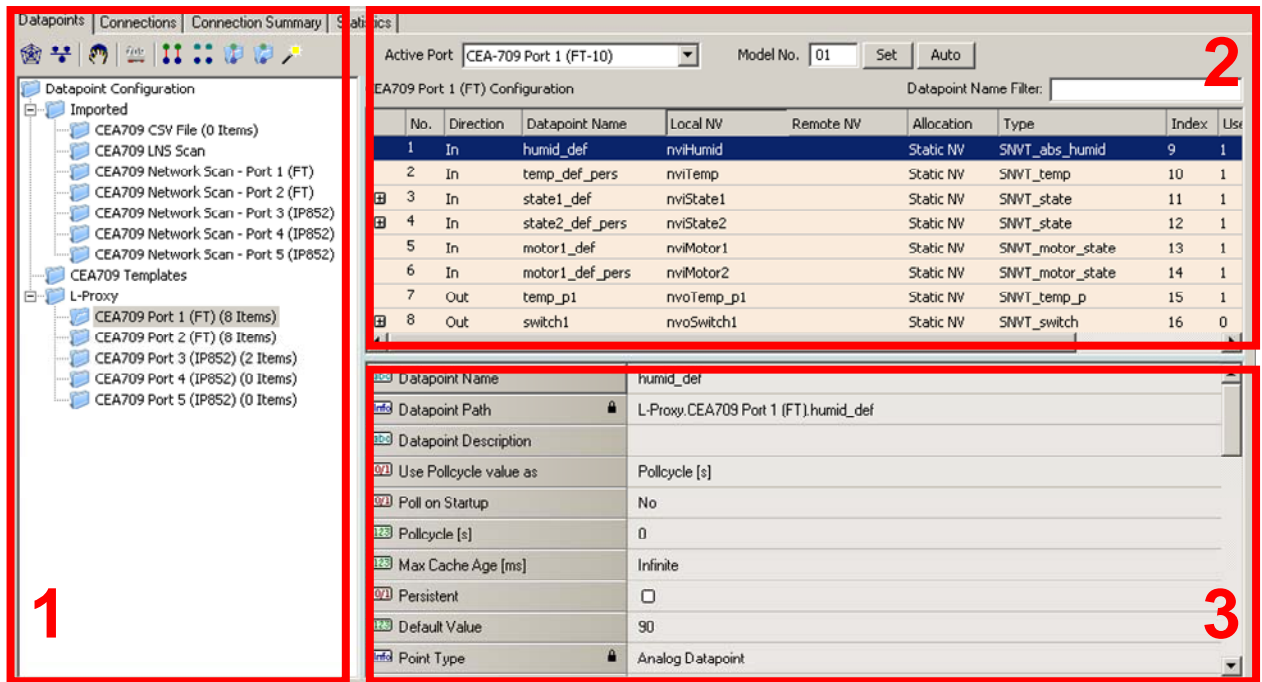

Figure 59: Data Point Manager Dialog
The Configurator uses a central concept to manage data points. The data point manager is located on the **Datapoints** tab as shown in Figure 59. It is used to select, create, edit and delete data points. The dialog is divided into three sections:
- The folder list (number 1 in Figure 59),
- The data point list (number 2 in Figure 59),
- And a property view (number 3 in Figure 59).